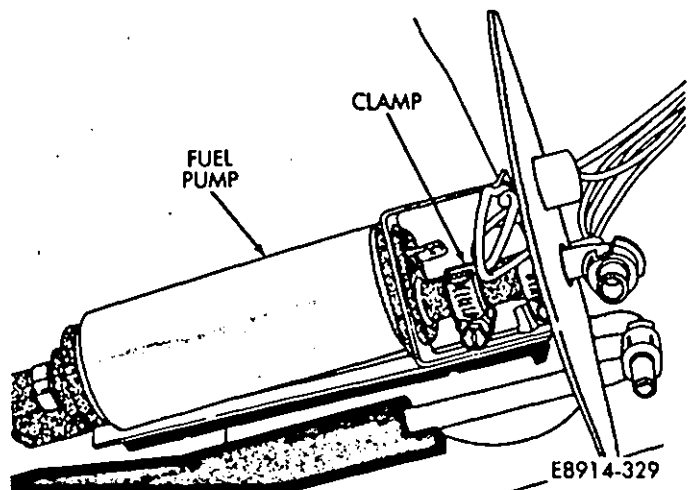

Fig. 21—Fuel Pump Removal
(7) Unscrew hose clamp and pull fuel pump out (Fig. 21). Keep gasket for installation.